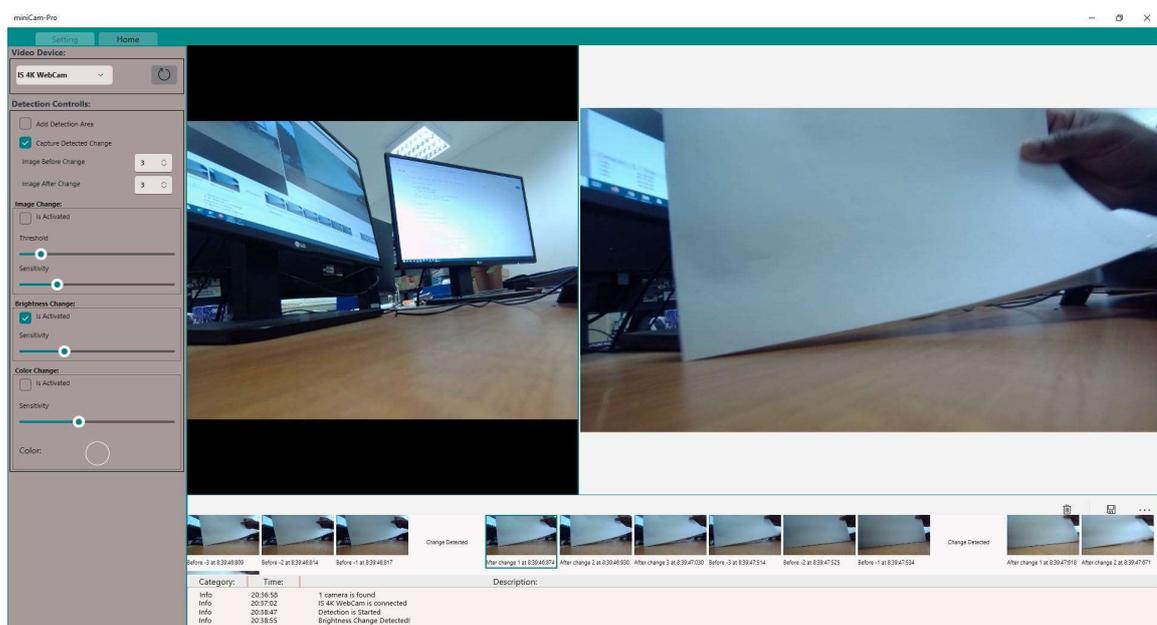

Figure 12: miniCam-Pro brightness change detection for entire image frame
- You can keep the “Is Activated” option checked and it will keep capturing more changes, as shown in Figure 12. You can select images and save them to your computer or delete them, by selecting the chosen image and clicking the respective Button. If you want to clear the image history just press the Delete Button without selecting an image.